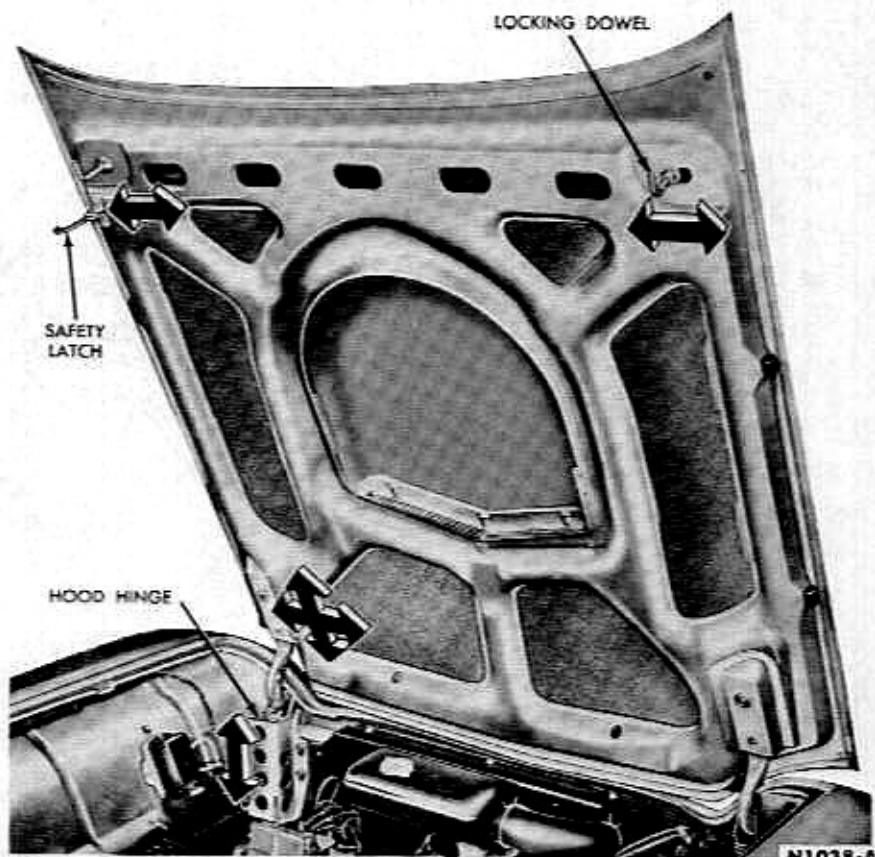

FIG. 2—Hood Hinge Alignment
1. Remove the hood to hood hinge bolts (Fig. 2). Protect the fenders and grille upper panel with covers to avoid scratches. Then obtain assistance to lift the hood up and off the hinges.
Fore and aft or side to side movement of the hood is accomplished at the hood to hood hinge bolts (Fig. 2).
Up and down adjustment for the front of the hood is provided at the hinge to hinge support bolts (Fig. 2).